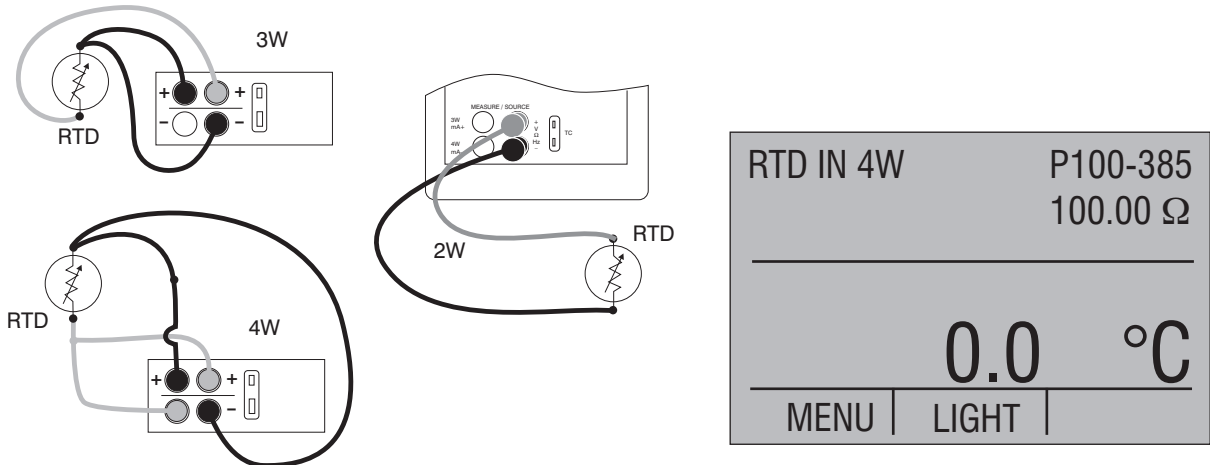

Figure 9. Measuring Temperature with RTD Connection
5. Attach RTD leads as shown in Figure 9.